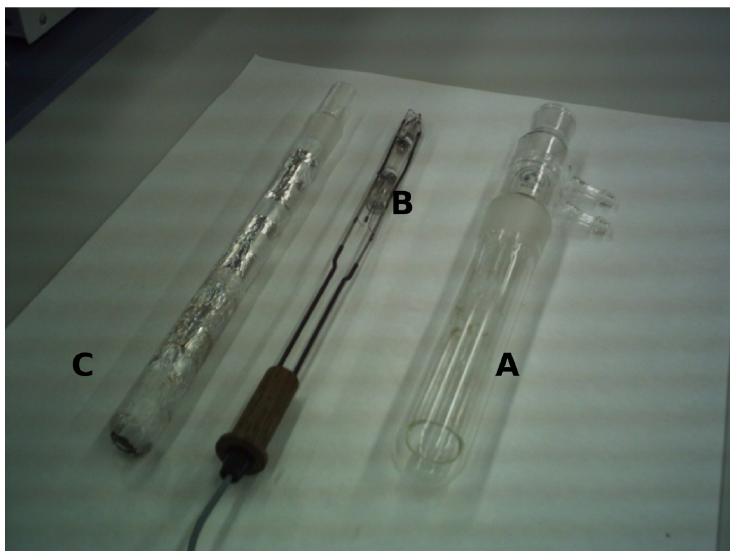

Figure 2: Hydrogen lamp assembly elements: **A** Lamp cooling jacket; **B** Hydrogen lamp; **C** Quartz support for the introduction of the lamp in the jacket cooling bath.
A sketch of the complete assembled apparatus to be used is shown in figure 1. It consists of a cylindrical glass container surrounded by a thermostatic jacket, into which the additional cooling system (A) that encloses a quartz cylinder (C) containing the lamp (B), is introduced along the vertical axis (see figure 2).
6. Insert the cooling jacket **A** (Figure 2) through the reactor body. Make sure the grids are in firm contact to avoid leaks of the water acting as a refrigerant.